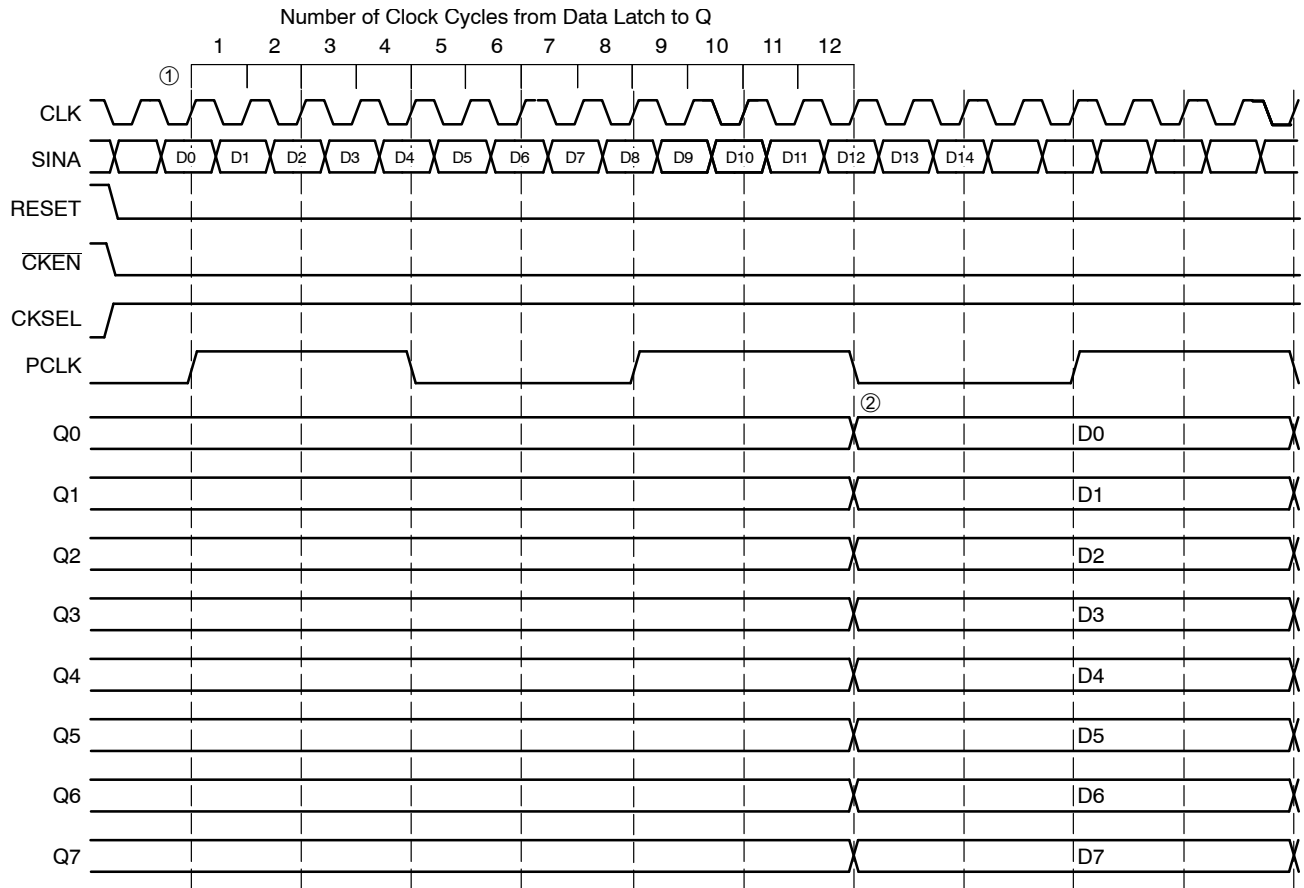

Figure 9. Timing Diagram A. 1:8 Serial to Parallel Conversion with CKSEL HIGH
Similarly, for CKSEL HIGH operation, the data is latched only on the rising edge of the clock and the time from when the serial data is latched^① to when the data is seen on the parallel output^② is 12 clock cycles (see Figure 9).